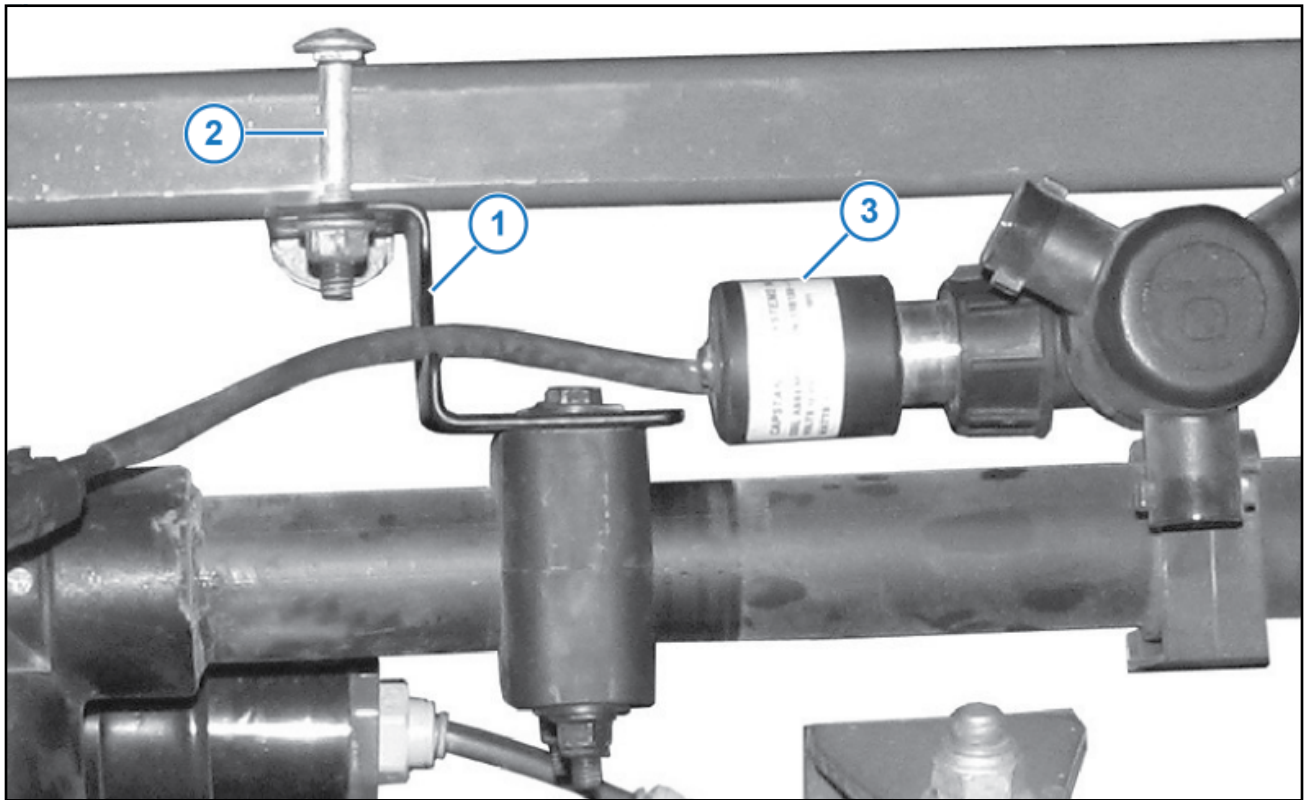

Figure 13: Spray Tube Mount/Nozzle Valve Interference
If a spray tube mount (Figure 13, Item 1) prevents nozzle valve installation:
1. Loosen the spray tube mount bolts (Figure 13, Item 2).
2. Slide the spray tube mount away from the nozzle valve assembly (Figure 13, Item 3) until the nozzle valve assembly can be properly installed.